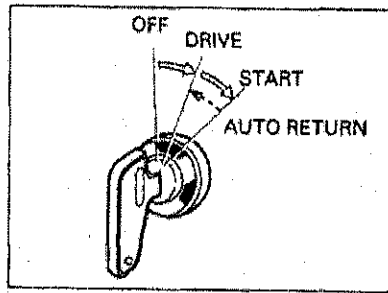

Fig 11 Starter switch (QOS system)
- 44 The type with QOS system. This pre-heating uses 'QOS', a quick pre-heating system which automatically controls pre-heating time utilizing coolant temperature to conduct the irreducible minimum of pre-heating (Fig 11).
- (1) Turn the key to the DRIVE position, and the glow plug built in the engine will grow red-hot to pre-heat the engine. At this time the pre-heating indicator lamp on the meterboard is actuated.
- (2) When the pre-heating indicator lamp goes out, try starting the engine at once.